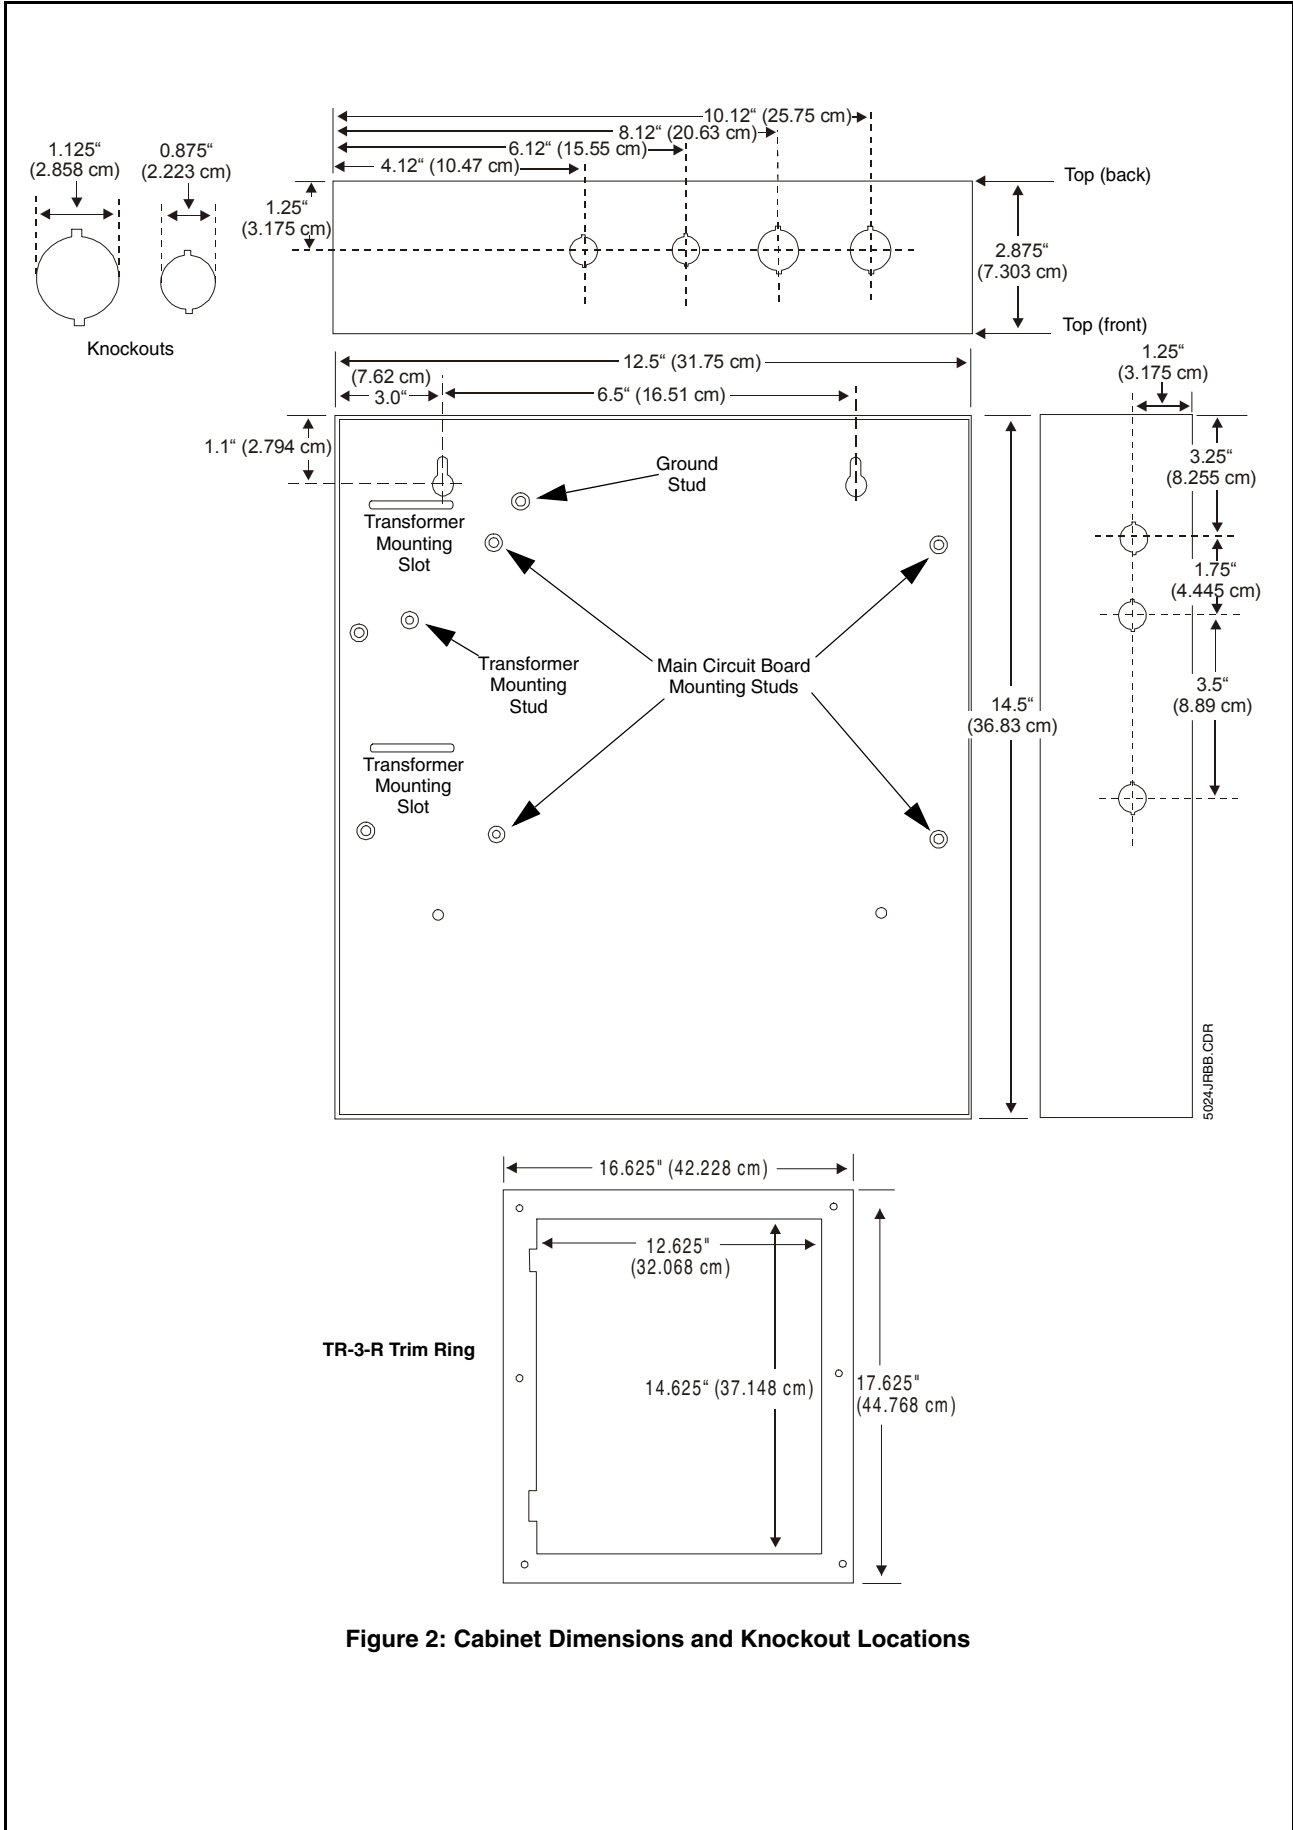

Figure 2: Cabinet Dimensions and Knockout Locations
- Mark and predrill holes for the top two keyhole mounting bolts using the dimensions shown in Figure 2
- When the location is clean and free of construction dust or other potential contaminants, install the main PC board by installing the four supplied standoffs on the four main circuit board mounting studs located in the backbox. Refer to Figure 2